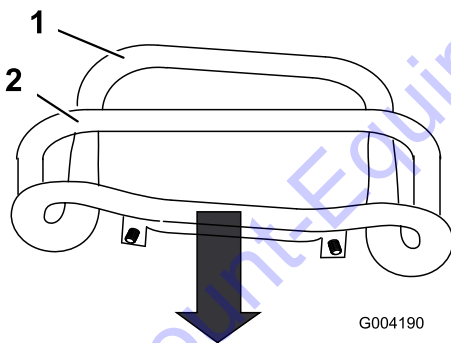

Figure 55
3. Pull straight back on the traction control so the front of the control contacts the reference bar (Figure 55).